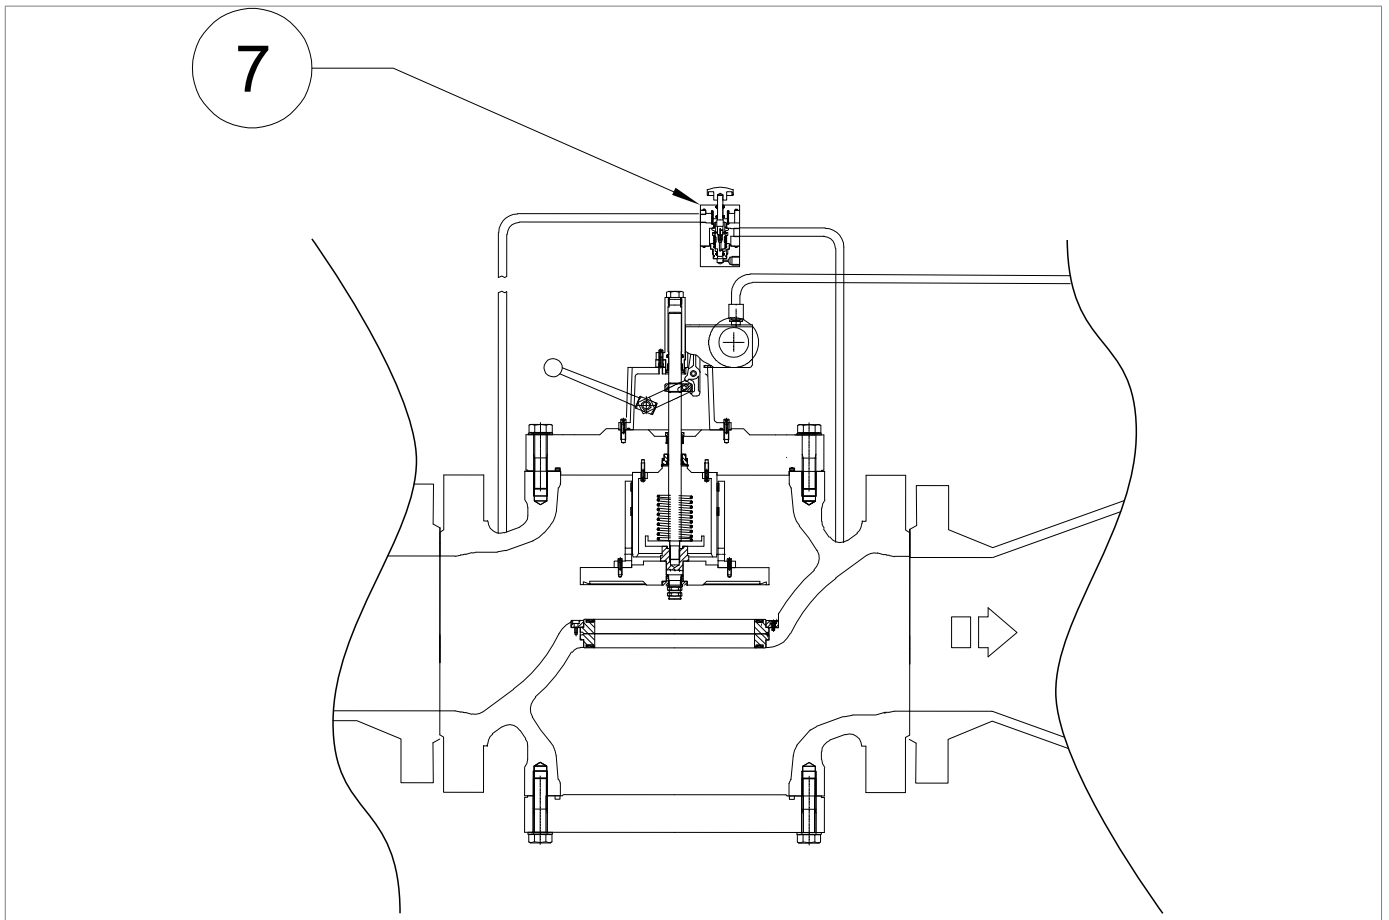
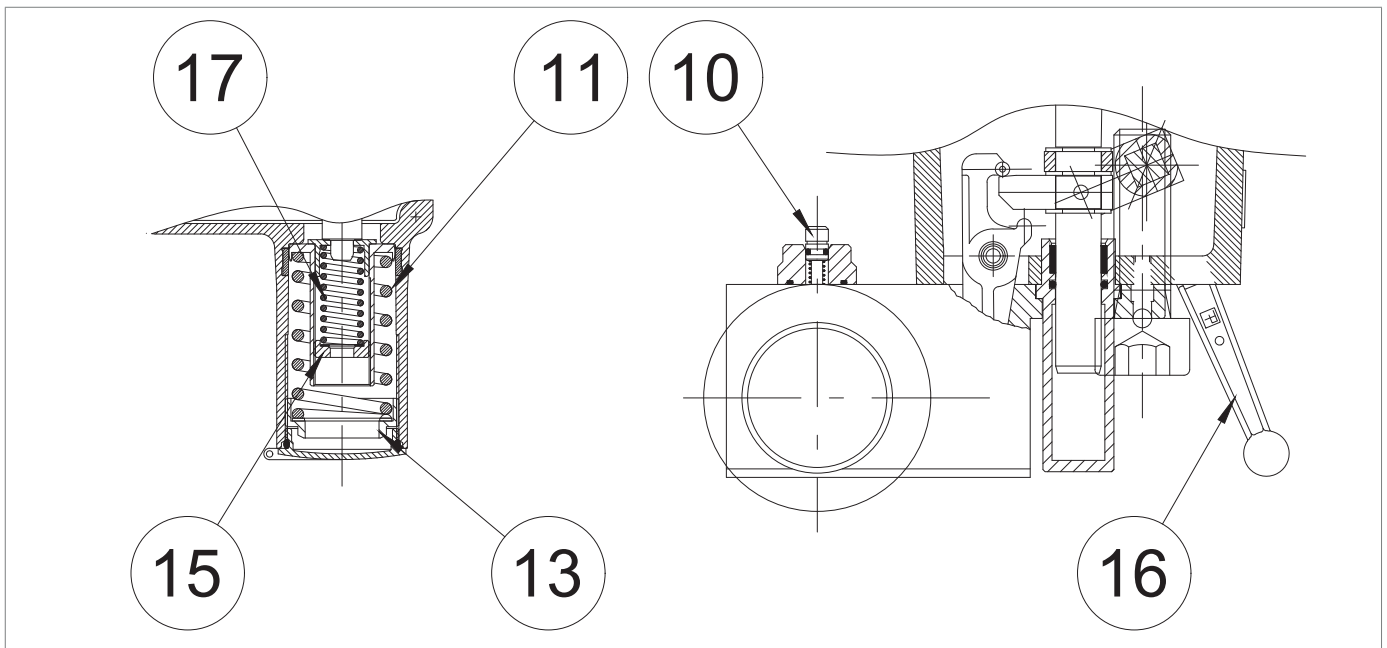

Fig. 8.13. HP2/2 by-pass detail only valid for 10".
Fig. 8.15. Calibration of pressure switches Mod.100
2	<p>Check that the slam-shut valve (3) is in the closed position.</p> <div style="border: 1px solid blue; padding: 5px;"> <p> NOTICE! If the slam-shut valve (3) is in the open position, close it using the manual button (Fig. 8.15, ref. 10).</p> </div>
5	<p>a- VALID FROM 1" TO 8" Slowly pressurise the conveying or control line, acting on the reset lever (Fig. 8.15, ref. 16) of the slam-shut valve (refer to the "Operation" section of par. 4.2), checking that the downstream pressure (Dp) indicated by the downstream pressure gauge (5) is 20% lower than the pressure switch intervention value.</p> <p>b - APPLICABLE TO 10" ONLY Slowly pressurise the conveying or control line by pressing the HP2/2 by-pass button (Fig. 8.13, ref. 7) of the slam-shut valve (refer to the "Operation" section of par. 4.2), checking that the downstream pressure (Dp) indicated by the downstream pressure gauge (5) is 20% lower than the pressure switch intervention value.</p>